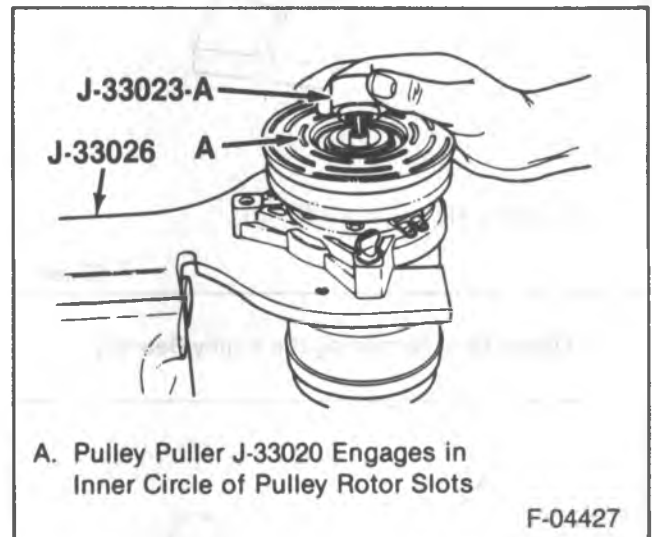
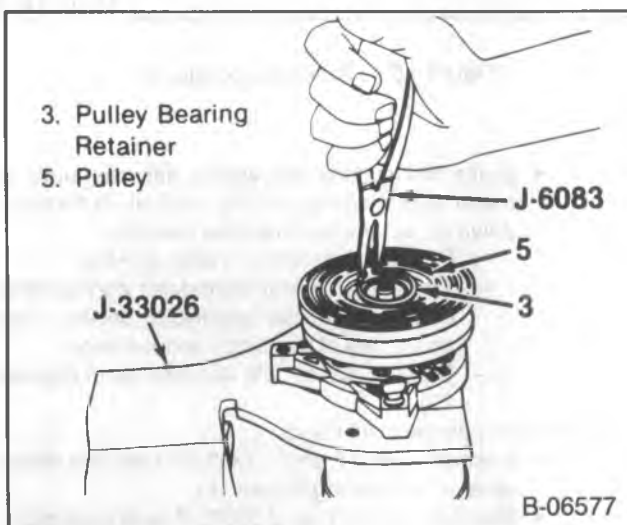

Figure 10 — Installing the Puller Pilot and Pulley Rotor Slot Location
Figure 9 — Removing the Pulley Rotor and Bearing Retaining Ring
1. Clutch plate and hub assembly (2).
2. Pulley bearing retainer (3) using J 6083 (figure 9).
3. Pulley (5).
- Install J 33023-A to the front head (figure 10).
4. Pulley bearing retainer (3) using J 6083 (figure 9).
5. Clutch plate and hub assembly (2).